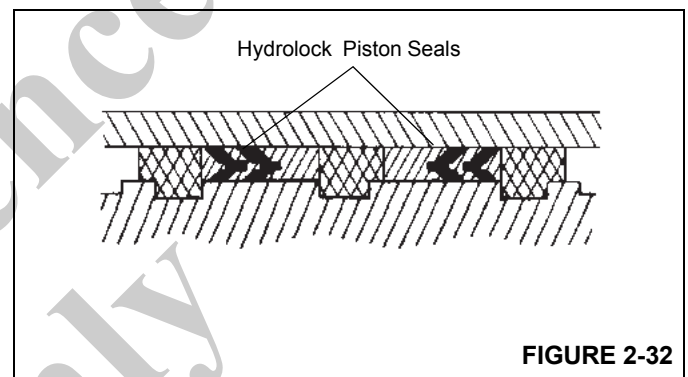

**FIGURE 2-31**
3. Install the wear rings into the head (Figure 2-31).
4. Install the buffer seal, rod seal and backup ring inside the head ensuring the seals are assembled properly and installed in the correct direction (Figure 2-31).